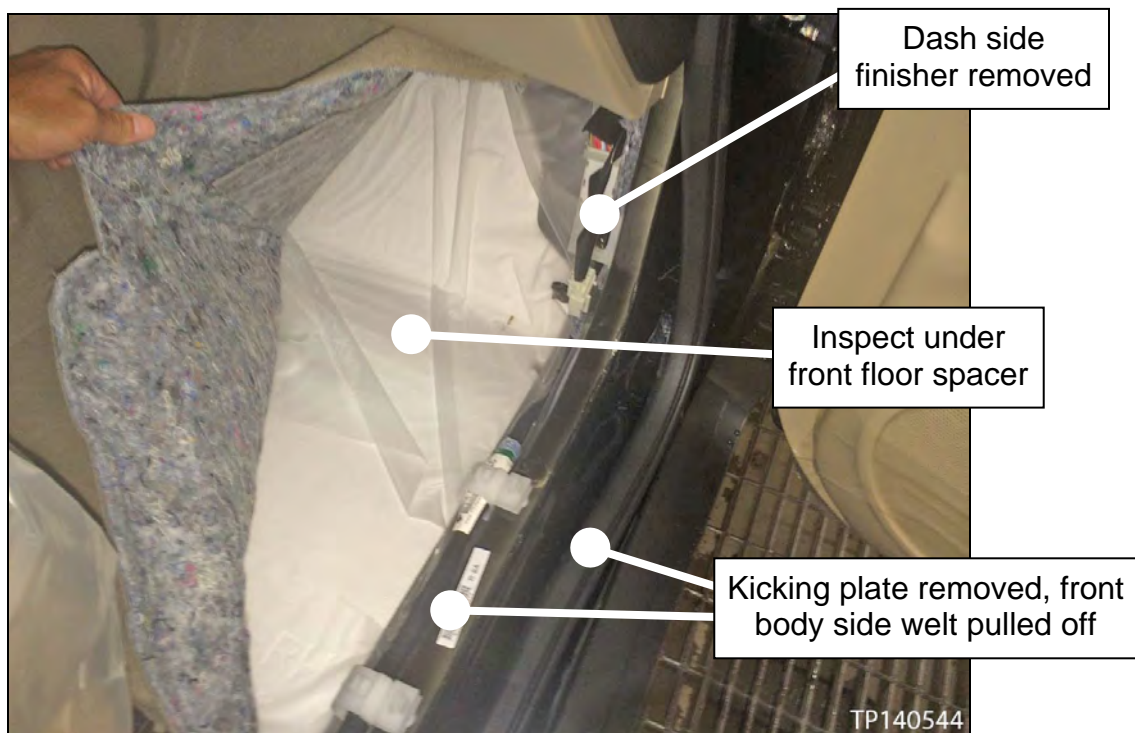

Figure 2
1. Pull back on the front floor trim (carpet) on both driver and front passenger floors, even if only one side is wet (see Figure 2, and 2a on the next page).
3. Check for water under the front floor spacers (see Figure 2 and 2a).